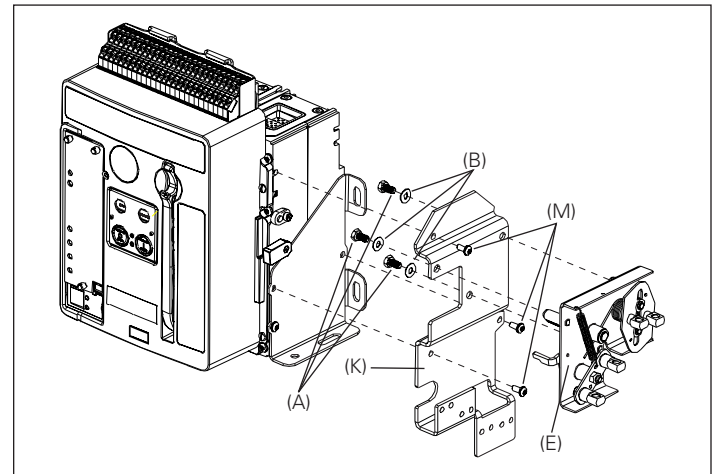
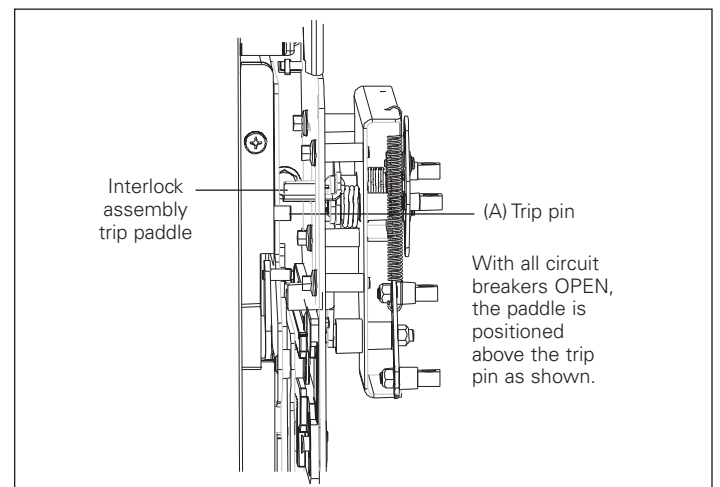

Figure 8. Details for Step 6
Figure 9. Details for Step 6
Fasten interlock assembly (E) to interlock mounting plate (K) using three M6 x 12 mm hex bolts (A) and lock washers (B) as shown in **Figure 8**. Torque to 4,5–5,6 N·m (40–50 in-lb). Then fasten interlock mounting plate (K) with attached interlock assembly to the right side of the breaker using three M5 x 12 mm screws (M) and one M5 square nut (L) as shown in **Figure 8**. Torque to 7,3–9,6 N·m (65–85 in-lb). Ensure that once attached to the breaker, the interlock assembly trip paddle is above the trip pin on the trip bar as shown in **Figure 9**.